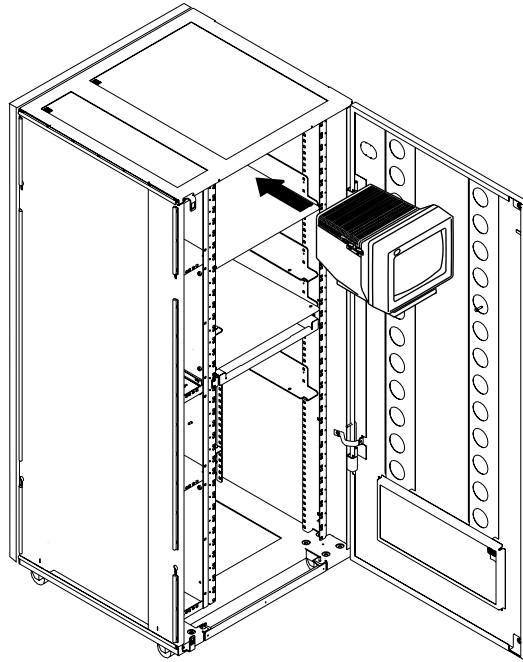

Figure 1-34. Installing the Display Screen in the Controller Expansion (Front Side)
11. ____ Slide the display screen on the top of the controller expansion (refer to Figure 1-34 on page 1-33).